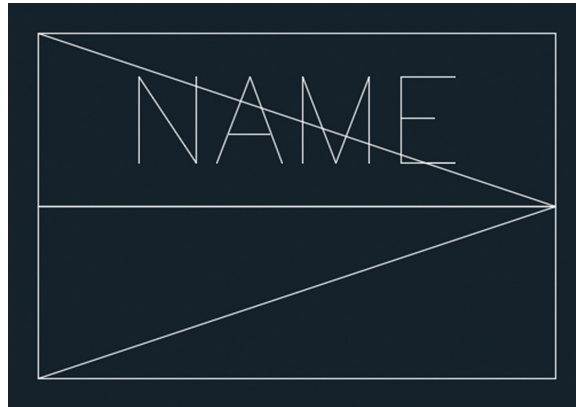

FIGURE 15.10 Placing an attribute definition in relation to the block definition geometry
- Click OK to close the Attribute Definition dialog box. Click the midpoint at point D in Figure 15.8. Figure 15.10 shows the result.